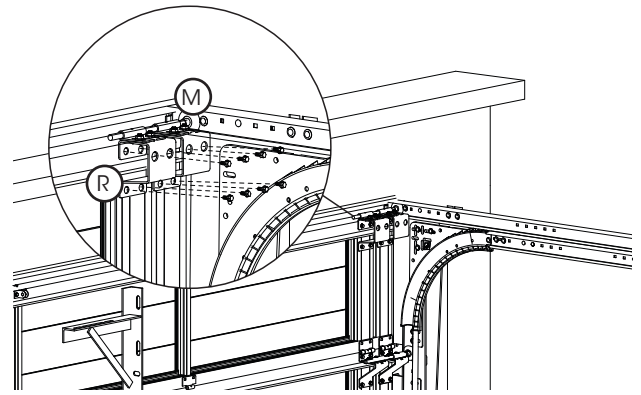

Fig: 3.5.1
- Insert the wheel axle (M) into the top hanger and slide down the top horizontal track to the stopper plate.
- Align wheel axle with the position of the below wheel axle (adjusting hanger if needed) and secure top hanger to panel with nuts and bolts. Fig 3.5.1.